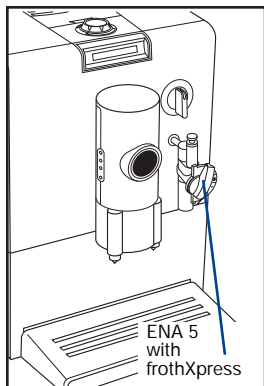

Fig. 3
11. Height Adjustable Dual Coffee Spout (ENA 3, ENA 4); ENA 5: (Fig. 3)